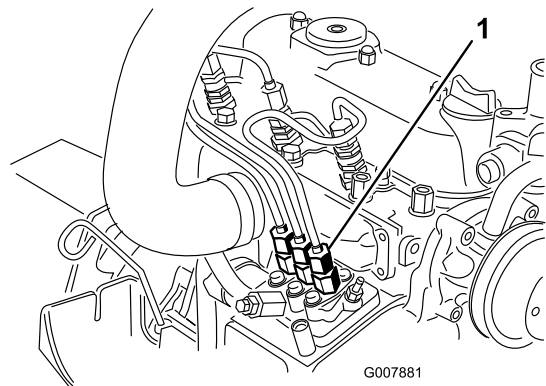

Figure 37
1. Place a rag under the pipe connection coming from the injection pump to the No. 1 injector nozzle as illustrated in Figure 37.